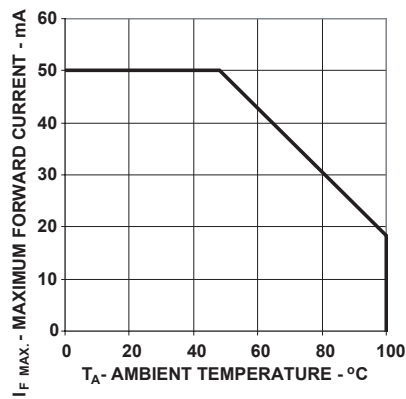

Figure 3. Forward current vs. ambient temperature
1. Derate linearly as shown in figure 3 and figure 7.